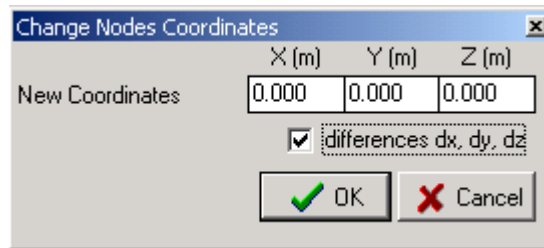

Figure 93 CHANGE NODE COORDINATES.
- Click on the "CHANGE NODE COORDINATES" command. The dialogue box of figure 93 will appear.